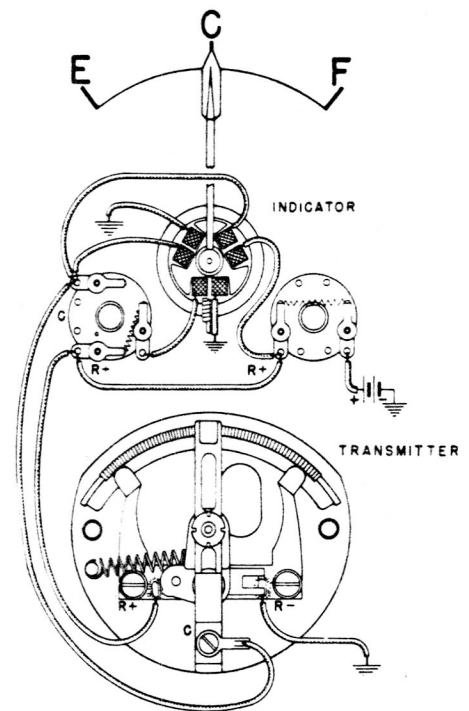

Figure 35—Schematic Wiring Diagram of Indicator and Tank Unit
(1) Figure 35 shows the electrical arrangement of a single scale 90-degree type or 120-degree type Indicator and Tank Unit. The contact shoe in the tank unit is caused to move over the resistance strip through a lever attached to a bellows seal by the movement of a float in the tank. The Indicator consists of a pointer attached to a magnetic iron rotor mounted in association with two electro-magnets. These magnets are connected to the tank unit by wiring and the system is grounded. The current distribution is varied at the tank unit through the movement of contact shoe over resistance strip and the current thus distributed excites the two electro-magnets which in turn move the magnetic iron rotor to which the pointer is attached. A magnetic force serves to bring the pointer off the empty end of the scale when the current is off. The voltage limiting resistor protects the system from overload should any of the tank unit leads be short circuited.
(2) It will be noted that the leads R - and R + contact the resistance strip at each end through an adjustable shoe. This adjustment varies the effective resistance value of the strip and affords a convenient means for adjusting the pointer position at either end of the dial scale in conformity with the position of the float at the top and bottom of the tank.
(3) The single 300-degree scale Indicator shown in Figure 35 has a ratio type mechanism having a magnetic rotor moving in a field produced by stationary coils. The rotor carries the pointer. The variable resistance in the tank controls the current flowing through the stationary coils. These coils in turn produce a magnetic field which controls the rotor.